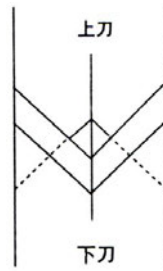

Fig 3-6
Refer to Fig 3-6, aim the upper blade at the down blade, and then fasten the screw.
- ① cut down the power supply, open the operation panel (there are 6 pieces of M3 round head screws)
- ② revolve the driving-pulley, make the gap between the two blades around 1.00. (The central distance between the two “V” blades, refer to Fig 3-6) and keep the blades fixed.
- ③ adjust the fan-shaped anti dazzling screen, and enter the fillister of the sensor, switch on the power supply, set the light (LED) on the circuit board of the sensor in a state of criticality, and fasten the screws, Please note that you have set the fan-shaped screen in the middle of the fillister to avoid scratch when adjusting the anti dazzling screen.
- ④ revolve the driving-pulley, to make the blades open to their most, and the indicator light is on at this moment, and the purpose of which is to prevent the blade carrier from being stuck when testing wires.
- ⑤ switch on the power supply, test wire again, if every thing turns out to be perfect, fasten the screws on the anti dazzling screen again, and cover the operation panel and fasten the screws.
- ⑥ The anti dazzling screen of ZDBX-1 is oblong, but the way of adjustment is just the same as that of other models of machines.
⑦ Do not adjust the zero point too frequently, but make use of compensation, so as not to destroy the machine.